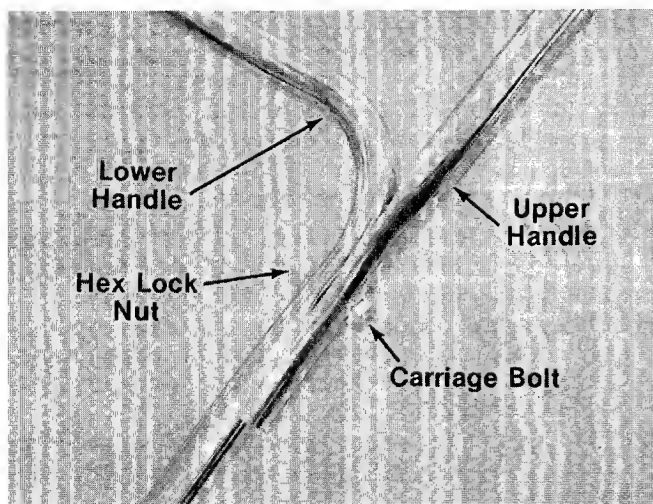

FIGURE 2.
3. Assemble upper handle to lower handle. Secure with two carriage bolts and hex lock nuts as shown in figure 2.